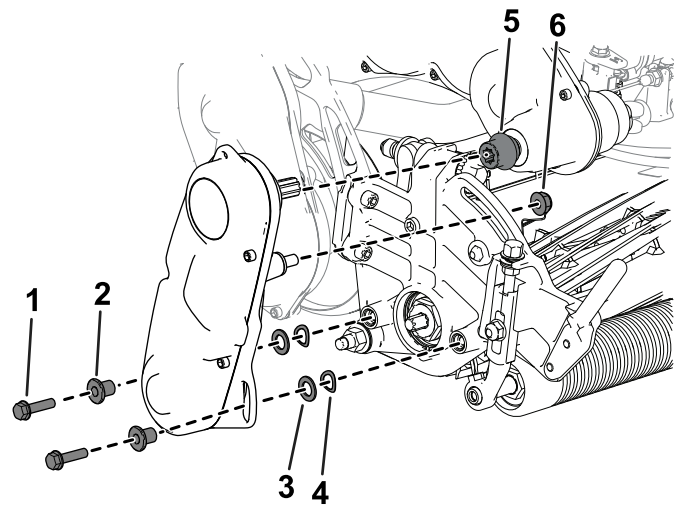

Figure 34
3. Remove the reel-drive assembly from the cutting unit (Figure 34) and retain the hardware.